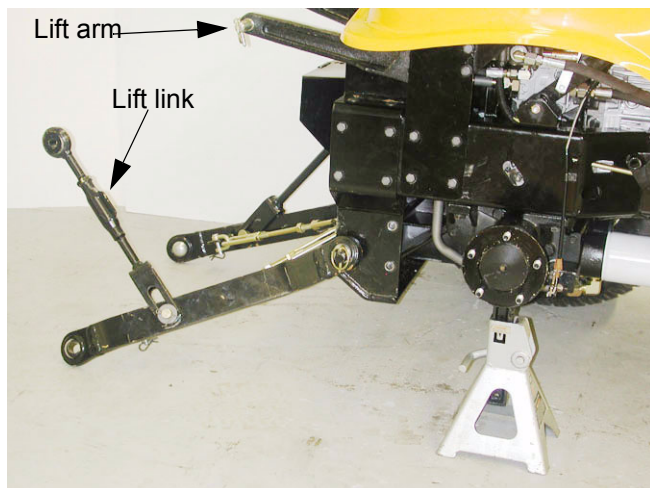

Figure 1.7
- 1.7. Remove the lynch pin securing the right lift link to the right lift arm (three point hitch) at the rear of the tractor, and disconnect the lift link from the lift arm. See Figure 1.7.